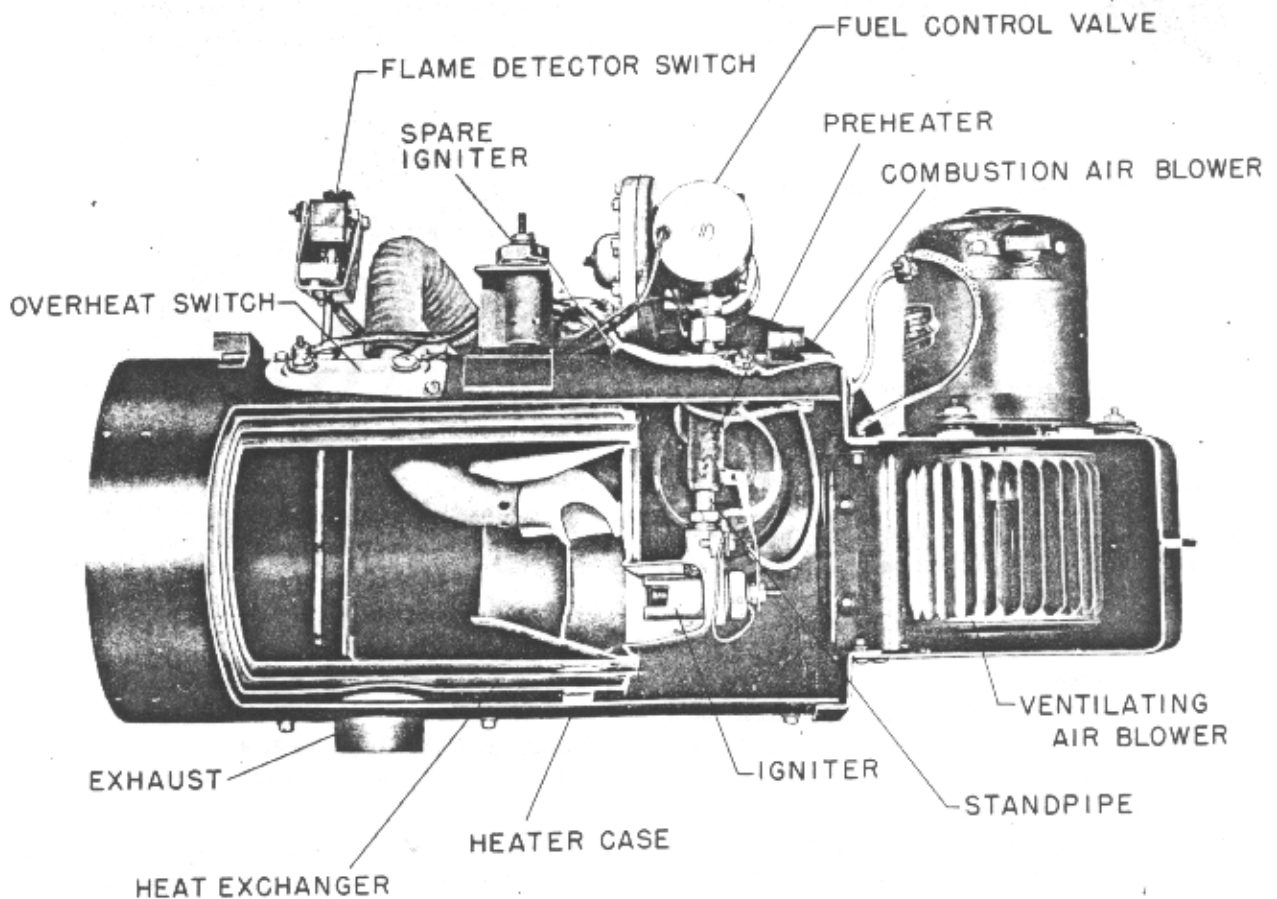

Figure 6—Cutaway View of Model 978 Heater
4. Principal components of the heater are: The heat exchanger, heater case, flame detector switch, fuel control valve, standpipe and vaporizer pad, igniter, overheat switch, combustion air blower assembly, ventilating air blower assembly and terminal strip (Figure 6). The Model 978-M-R also has a recirculating combustion air inlet adapter not shown in Figure 6.
On the 12 and 24-volt heaters, the voltage dropping resistor also serves to preheat the fuel in the standpipe, thereby providing a quicker start at low temperatures (see Figure 6).